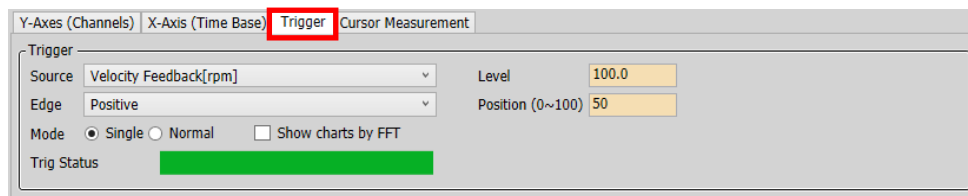
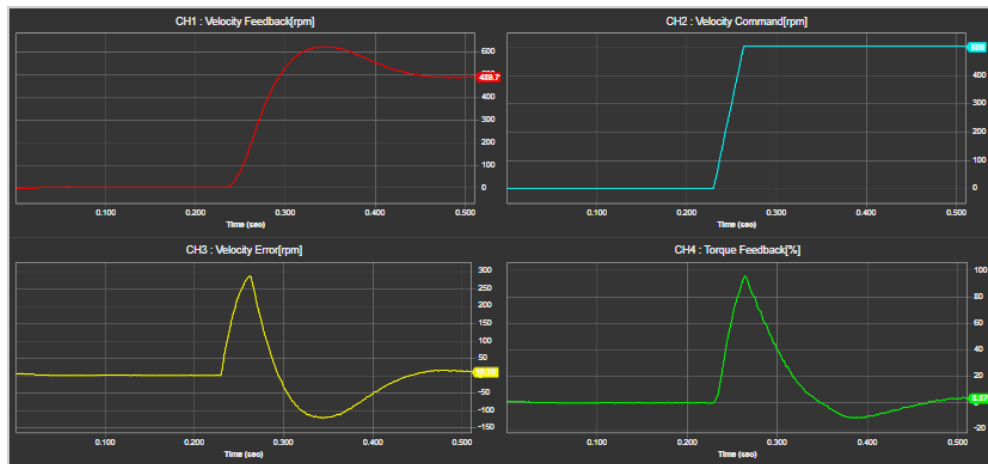

Figure 3-5.4
Figure 3-5.5
- When the trigger is completed and checked, an analysis graph converted to FFT is displayed. (Refer to Figure 3-5.5) Set up Notch Filter properly to reduce the vibration by detecting the resonance frequency in the normal time and analyzing the results.
Figure 3-5.5 shows an example of a single trigger as presented in Figure 3-5.4, where the source channel is "Velocity Feedback[rpm]"; Trigger Level is 100[rpm] at the positive edge; and the graph's Trigger Position is located at 50% (center).